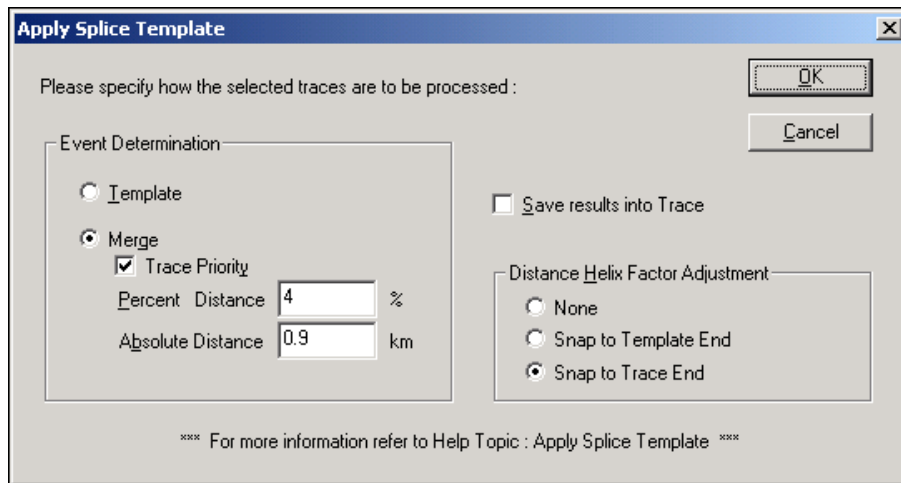

Figure 12-4: Apply Splice Template Dialog Box
4. Set up the Apply Splice Template dialog box as shown in Figure 12-4.